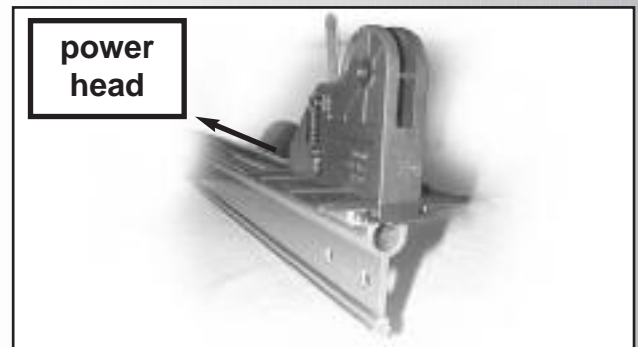

Fig. 1-6
- Slide carriage into boom. **Fig. 1-6.**